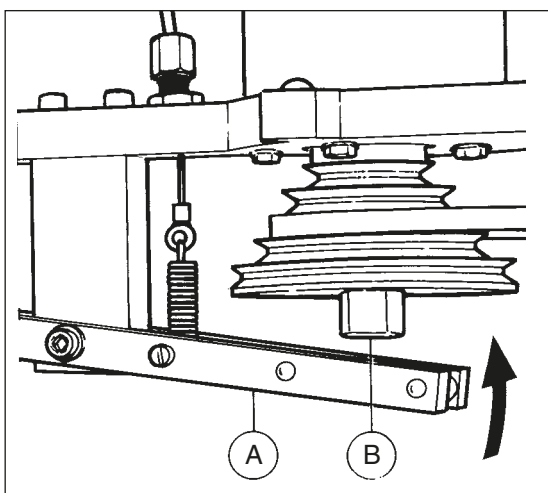

Fig. 17
- Turn the spindle manually to bring the spindle in locking position. (fig. 17, A-B)